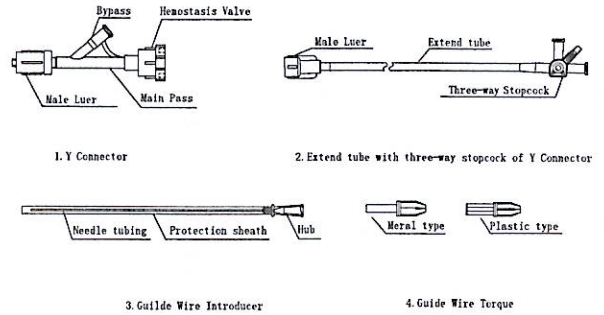

Figure 1
4. Guide wire torque (see figure1)